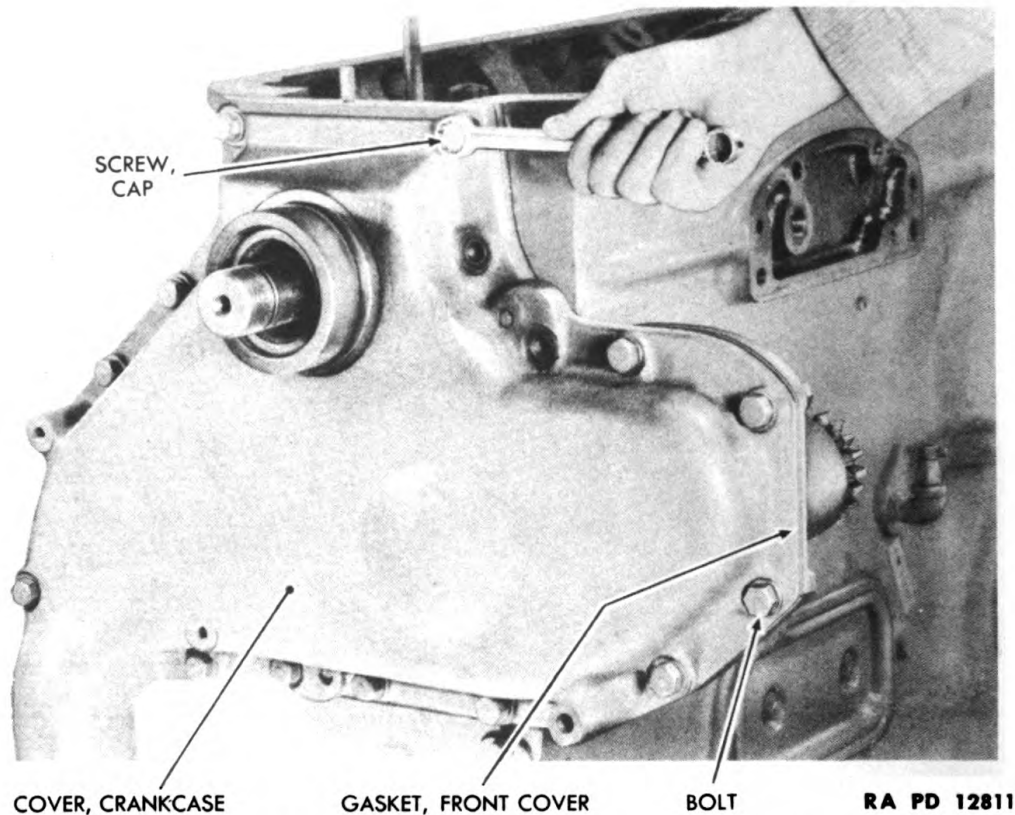

Figure 45—Crankcase Front Cover Removal
(3) REMOVE CRANKCASE FRONT COVER (fig. 45).